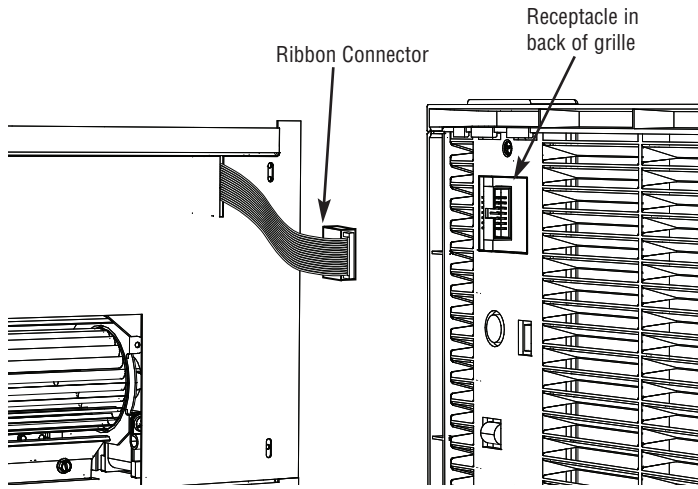

Figure 4- Ribbon Connector
Position junction box cover in place making sure flat ribbon cable is fitted into elongated slot in cover as shown in Figure 4. Secure cover in place using the 4 screws provided.
NOTE: Approximately 3-1/2 inches (89 mm) of ribbon cable should be extending through the slot for connection to electronics in grille. Orientation of connector must be as shown in Figure 4.
1. While holding the right side grille in your right hand, extend the ribbon connector with the free hand and fit the black connector into the black slot located on the back of the electronic control, behind the grille. The connectors are keyed so it will fit only one way (Figure 4).